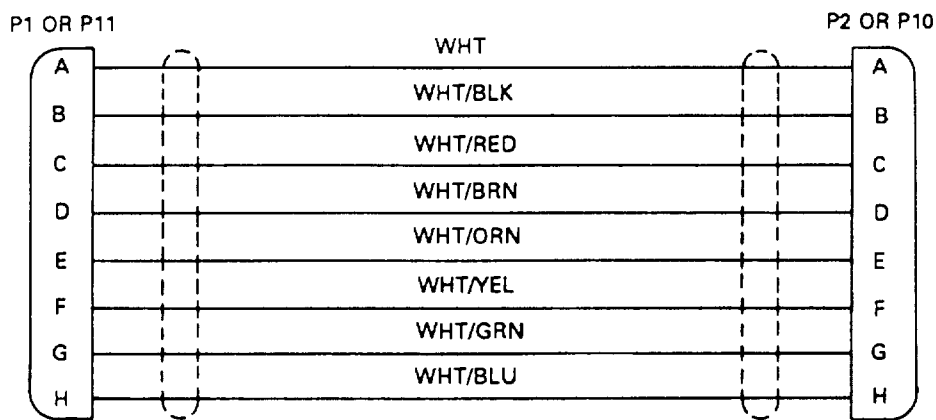

Figure 4-5. Power/Control Cable and Auxiliary Cable Wiring Diagram.
4-19. **Power/Control Cable and Auxiliary Cable Testing**. (See figure 4-5.) The 75-foot power/control cable connects the PDU at J1 to the ICC or CRG. The 25-foot auxiliary cable connects the PDU at J10 to the standby power unit. Except for the length, these two cables are the same. A continuity test is used to detect faults in these cables. The procedure is the same for both cables.
- e. Repeat steps b through d for each remaining wire in cable. Refer to figure 4-5 for correct ongoing and destination of each wire.